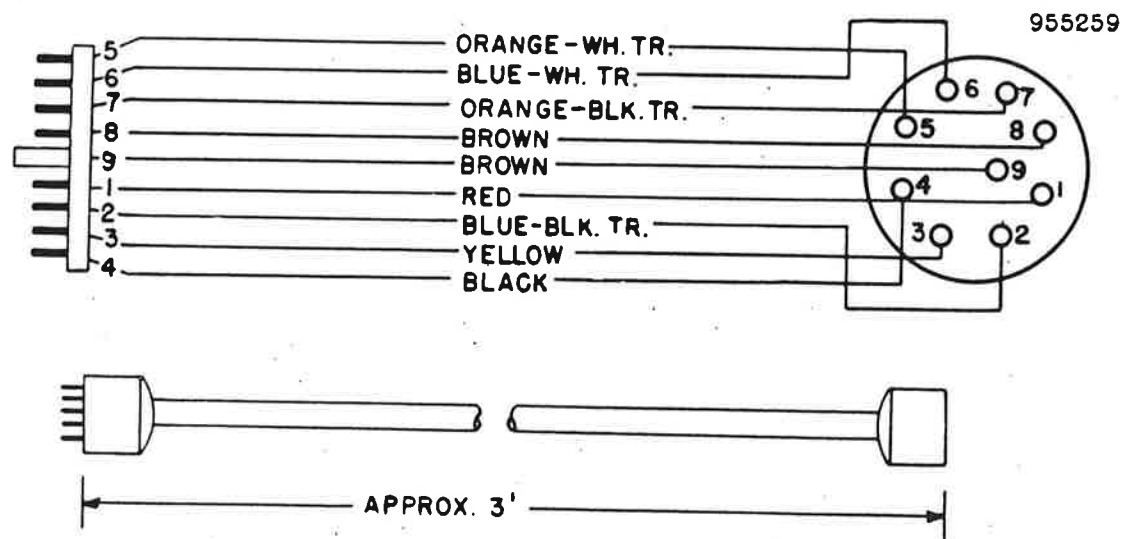

Figure 5-4—Deflection Yoke Adaptor Cable
- 5) Adapter Cable—An adapter cable is required for deflection yoke connections when the chassis is removed from the cabinet. The adaptor consists of a short length of nine wire cable terminated in a plug at one end and a socket at the other end. The cable wiring is shown in figure 5-4.